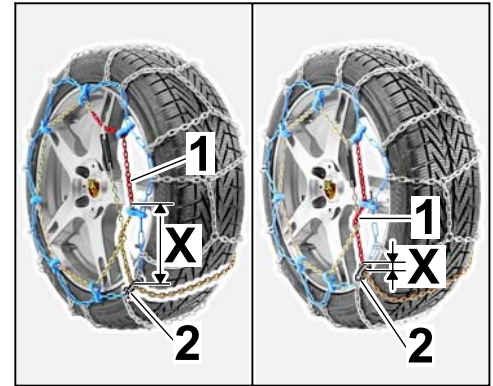

Figure 12
- The area marked in red on the tensioning chain must be pulled completely through the slot on the locking plate. The distance between the area marked in red and the slot on the locking plate (dimension X ⇒ *Figure 12-X*) can vary depending on the tyre size.